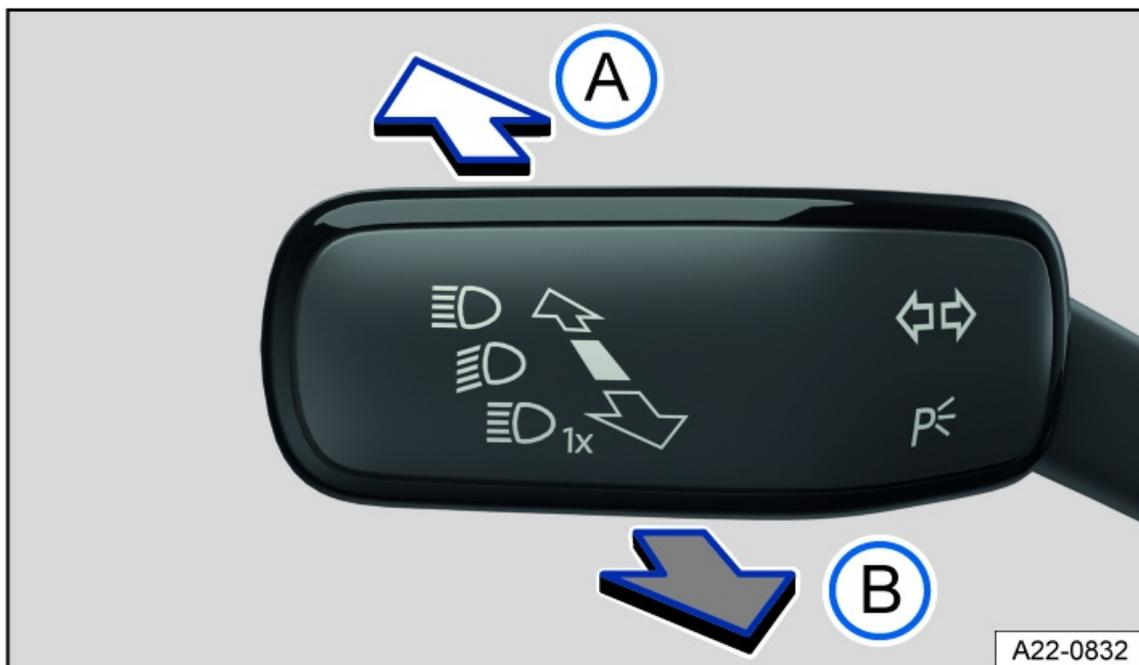

Fig. 79 On the left side of the steering column: turn signal and high beam lever.
3. Tap the lever forwards out of the basic position *fig. 79*.
- *Increase sensitivity*: push the lever forwards out of the starting position and hold it in place for approx. 15 seconds *fig. 79*.
- *Reset sensitivity to standard setting*: push the lever forwards out of the starting position and hold it in place for approx. 15 seconds *fig. 79*.
Or: if high beam control (Light Assist) is switched on and active, pull the lever backwards *fig. 79*.
Or: if high beam control (Light Assist) is switched on and is not active, press the lever forwards *fig. 79*. The manual high beam headlights are now switched on. To switch off the manual high beam if necessary, pull the lever backwards **B**.